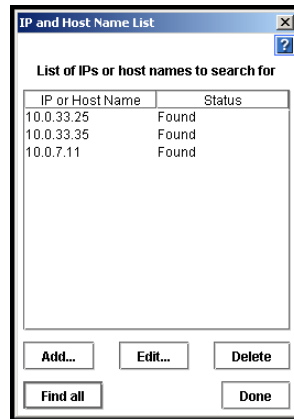

Figure 9. Using IP or Host Name to Search
The IP and Host Name List window opens, as shown in Figure 9.
2. Click By Module IP or Host Name. The IP and Host Name List window opens, shown in Figure 9.